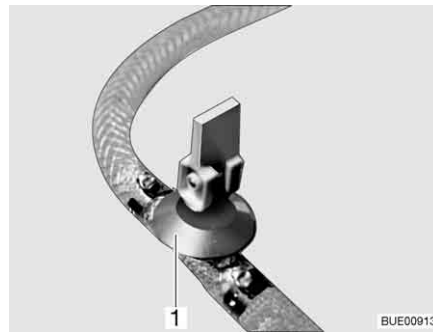

Fig. 179 Drain cock
- Close the drain cock(s). Position the rocking lever (Fig. 179,1) horizontally.
- Open drain cock(s) (Fig. 179). To do so, set the rocking lever (Fig. 179,1) in a vertical position. The boiler is drained to the outside.